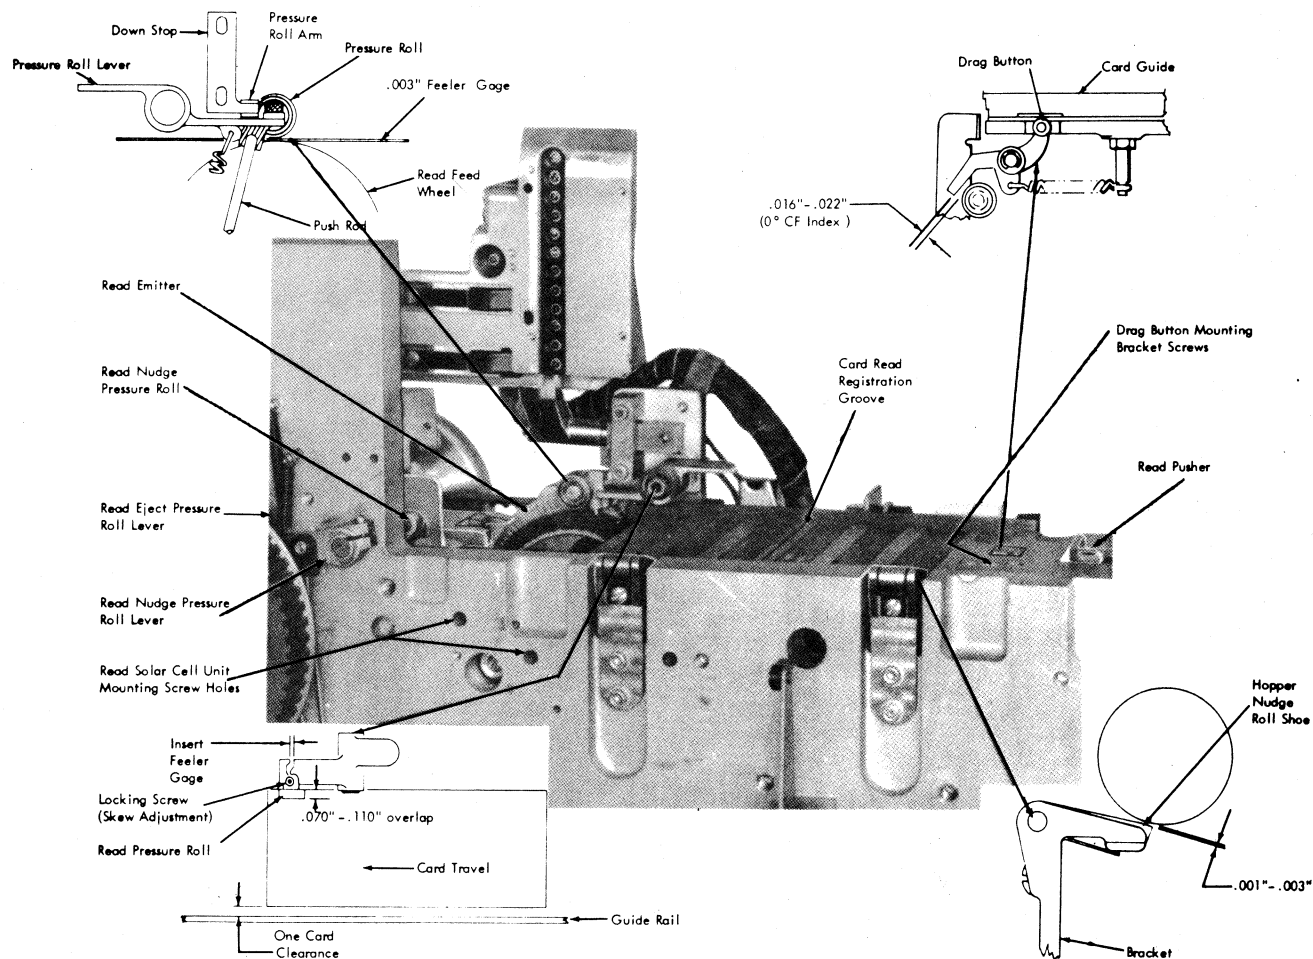

Figure 4-8. Preread and Read Station Adjustments
Adjust hopper nudge roll shoe brackets for .001" to .003" gap between the shoes and the hopper nudge roll (Figure 4-8). Check for a minimum of 2.5 pound pull-out force from each roll.
Refer to Figure 4-8 for pusher location.
At  $0^{\circ}$  on the CF index, check that drag button contacts pad on under surface of card guide, and the drag button arm has .016" to .022" clearance to the roller on the read pusher arm (Figure 4-8). Drag button must not contact sides of clearance hole. To adjust, position drag button mounting bracket.
1. With the CF clutch latched and a .003" feeler gage between pressure roll and feed wheel, adjust down stop to be in contact with pressure roll arm (Figure 4-8). There should be
6. To provide .070" to .110" overlap of pressure roll on card, loosen pressure roll pivot stud and insert the proper number of shims (P/N 627576). See Figure 4-8.
On some machines, the pressure roll locking screw (Figure 4-8) has been factory sealed. Skew adjustment on these machines should not be necessary in the field.
3. Adjust read pressure roll, by means of its locking screw, so the card will move against the guide rail within 4" to 6" of card travel. A feeler gage can be inserted, as indicated in Figure 4-8 to facilitate adjustment.